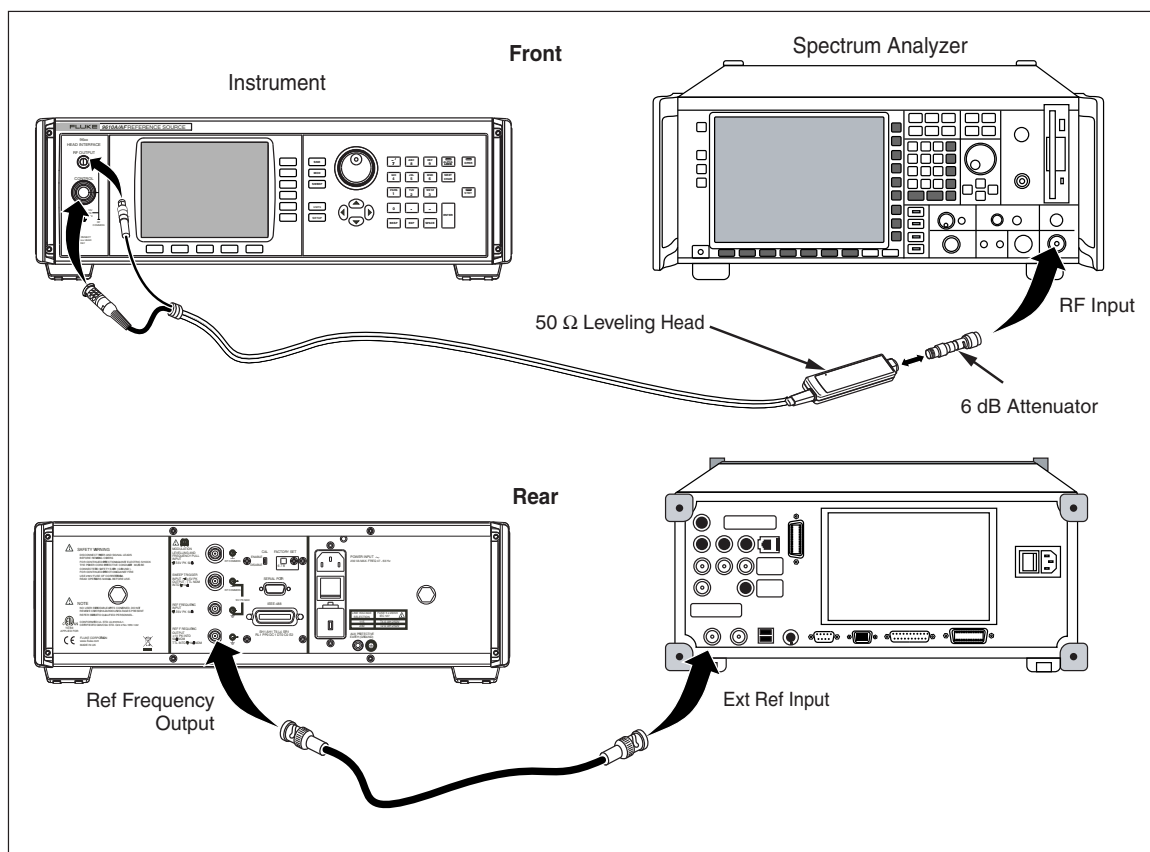

Figure 5-7. Equipment Connections - Attenuation Accuracy Test (50 Ω)
1. Connect the Leveling Head to the RF INPUT of the measuring receiver via a 6 dB attenuator and connect the REF FREQUENCY OUTPUT (rear panel) from the UUT to the spectrum analyzer Ext Ref In (on rear). See Figure 5-7 for equipment connections.